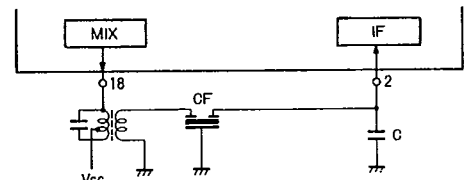

Fig. 4
6. Pin 14 should be grounded or left open. Do not connect it to any other point. (Fig. 4)